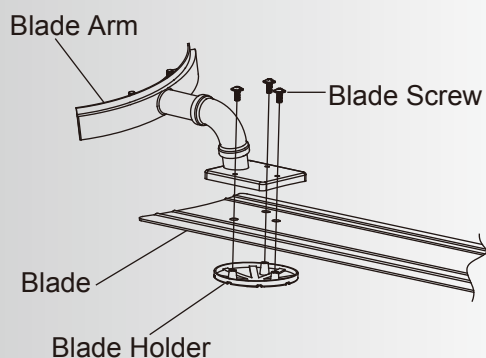

Fig. 16
**Step 1.** Position the blade over the blade holder with three threaded posts showing. Make sure the bottom edge of the blade is fully seated against the blade holder. Attach the blade arm to the blade and blade holder using the three blade screws. Do not tighten blade screws until all three have been inserted. Then, tighten each blade screws securely. Repeat the procedure for all remaining blades. (Fig.16)